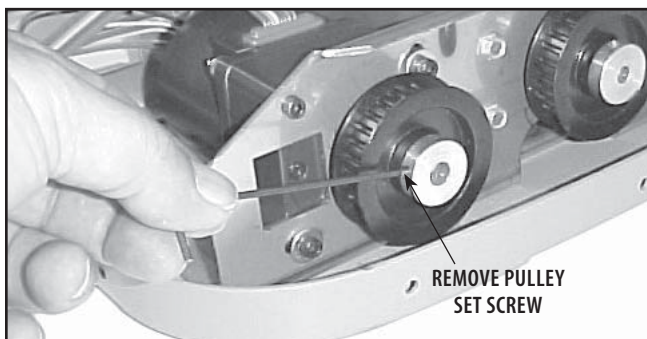

FIGURE 6.5
4. Using a 5/64" Allen wrench, remove the set screw from the Motor Pulley. **Refer to Figure 6.5.**